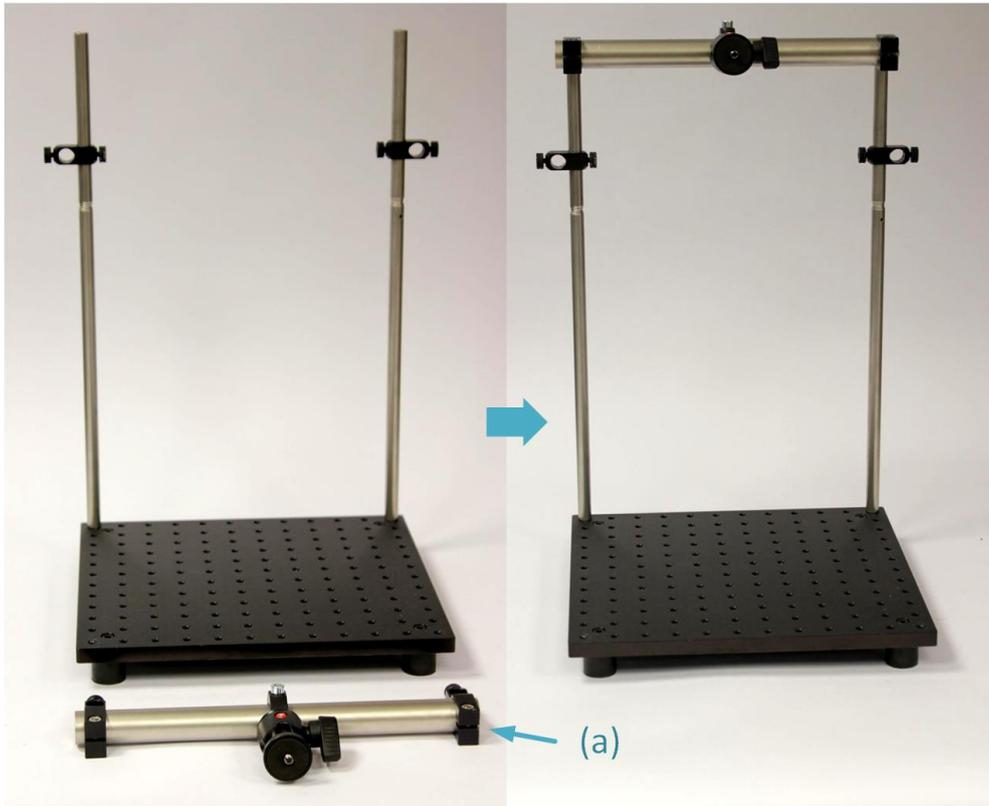

Figure 24 Assembly of top post with tripod head on the vertical posts (Step 3.5)
Step 3.5 Mount the top post on the vertical posts (Figure 24)
- a. Slide the assembled top post (from prev. step) on to the vertical posts and fix them on the top edge, as shown in Figure 24.